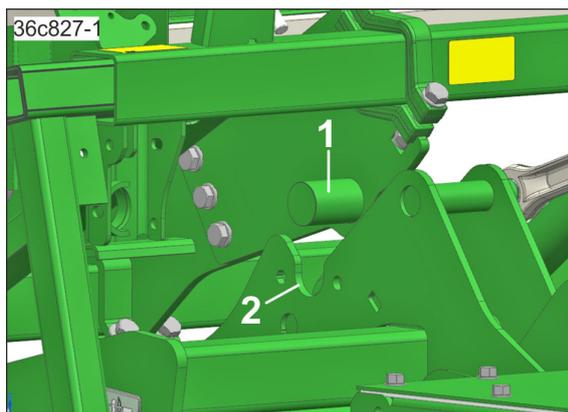

Fig. 128
- Pick up the seed drill bearing (Fig. 128/1) with the soil tillage implement catch hooks (Fig. 128/2).